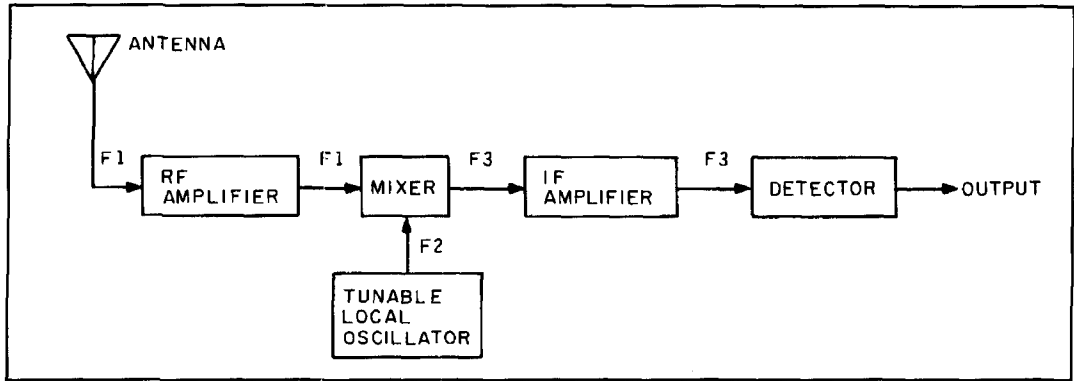

Figure 1. Block diagram of the superheterodyne receiver.
**Superheterodyne receivers.** The "superhet" (Figure 1) is the basic receiver design used in communications and broadcast receivers. It
dates from the 1920s, and is the most successful form of receiver design. In the superhet receiver, the incoming RF signal (at frequency  $F_1$ ) is filtered by a tuned RF resonant circuit or a bandpass filter, and then applied to a mixer circuit. In most cases, the RF signal is amplified in an RF amplifier (as shown in **Figure 1**), but that isn't a requirement. The mixer nonlinearly combines  $F_1$  with the signal from a local oscillator (at frequency  $F_2$ ), to produce an output spectrum of  $F_3 = mF_1 \pm nF_2$ . In our simplified case,  $m = n = 1$ , so the output will consist of the two original signals ( $F_1$ ,  $F_2$ ), the sum signal ( $F_1 + F_2$ ) and the difference signal ( $F_1 - F_2$ ). A filter at the output of the mixer selects either sum or difference signal as  $F_3$ ; this is called the intermediate frequency (IF). Most of the receiver's gain and selectivity are provided in the IF amplifier. The output of the IF amplifier is fed to a detector that will demodulate the type of signal being received. A simple envelope detector is used for an AM signal, while a product detector is used for CW and SSB.